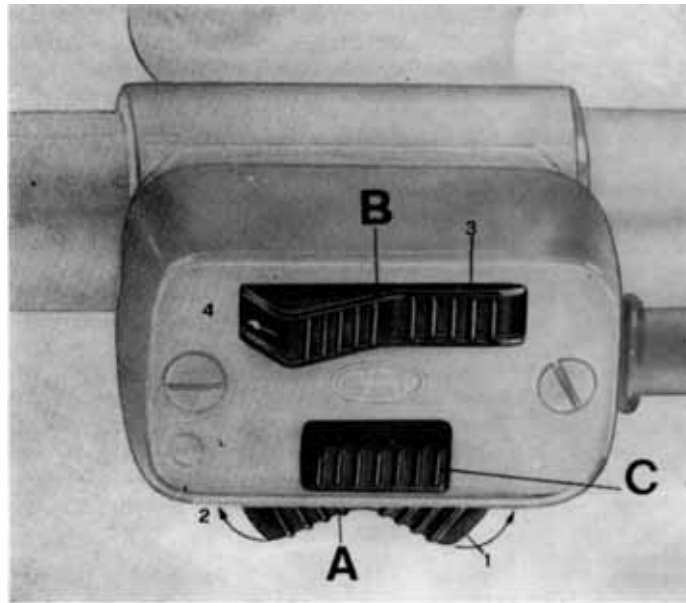

Fig. 7
<< 2 >> Running position or machine ready to set out. All controls on. For daylight driving no other position necessary. For night driving levers A and B on the left handlebar must be switched on (See fig. 7).
**Dimmer switch and horn button (See fig. 7)**